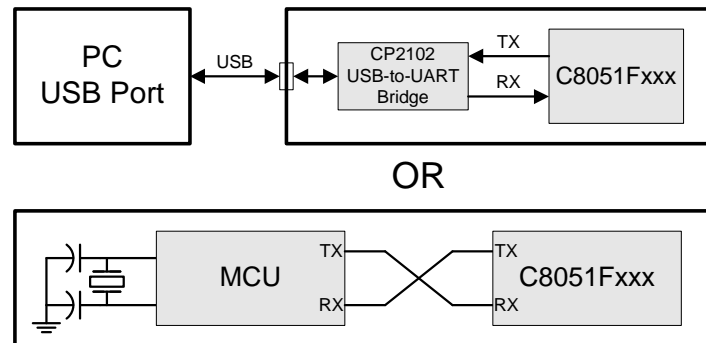

Figure 22.5. Typical UART Interconnect Diagram
In typical UART communications, The transmit (TX) output of one device is connected to the receive (RX) input of the other device, either directly or through a bus transceiver, as shown in Figure 22.5.